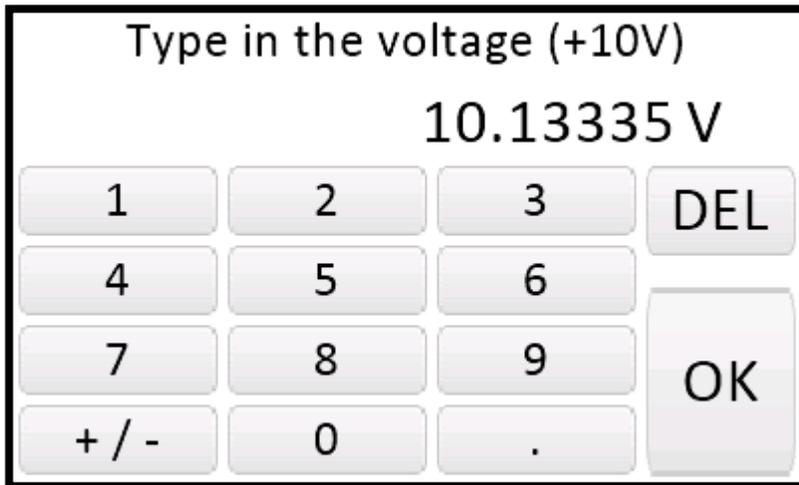

Figure 25. MAXREFDES183# Calibrate +Voltage input.
34. The MAXREFDES183# will now produce a “high” voltage of approximately 10V between the UIO and GND (**Figure 25**). It should be stable in at least 5 digits, if not, then something is wrong with your setup. Once the voltage has stabilized, read the exact number read from the external DMM (as many digits as available), enter this value, and click **OK**.